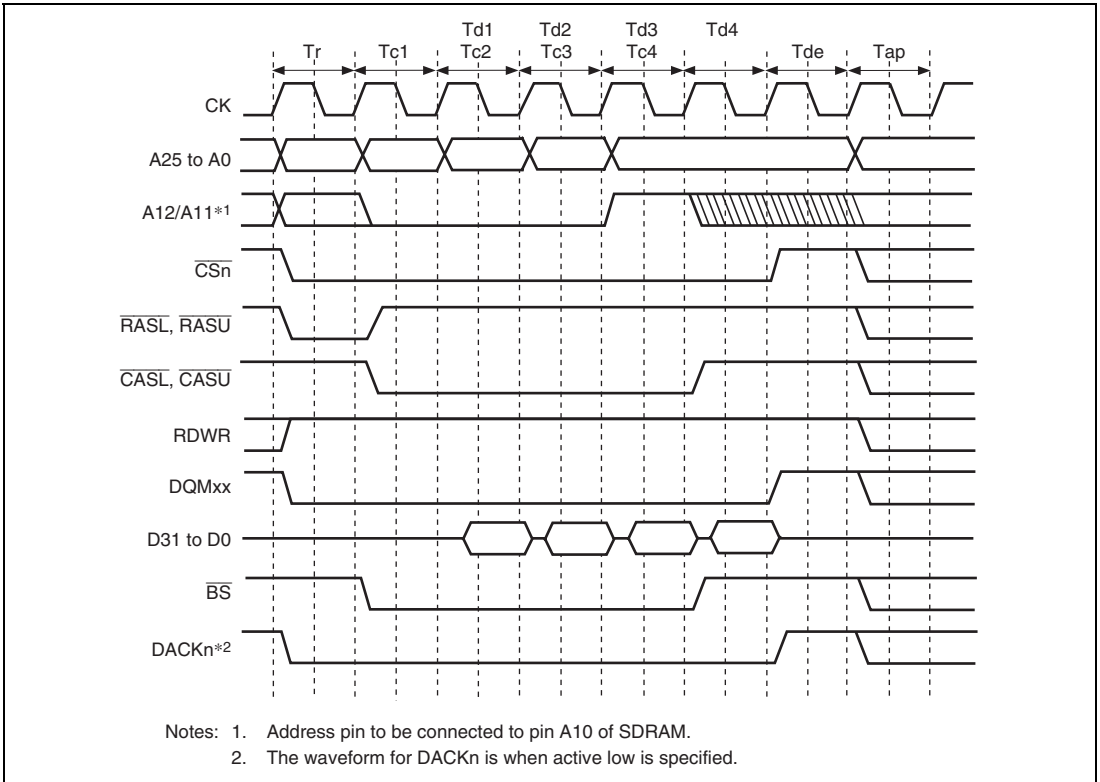

Figure 9.17 Burst Read Basic Timing (Auto-Precharge)
Figures 9.17 and 9.18 show a timing chart in burst read. In burst read, an ACTV command is output in the Tr cycle, the READ command is issued in the Tc1 to Tc3 cycles, the READA command is issued in the Tc4 cycle, and the read data is received at the rising edge of the external clock (CK) in the Td1 to Td4 cycles. The Tap cycle is used to wait for the completion of an auto-precharge induced by the READ command in the SDRAM. In the Tap cycle, a new command will not be issued to the same bank. However, access to another CS space or another bank in the same SDRAM space is enabled. The number of Tap cycles is specified by the WTRP1 and WTRP0 bits in CS3WCR.